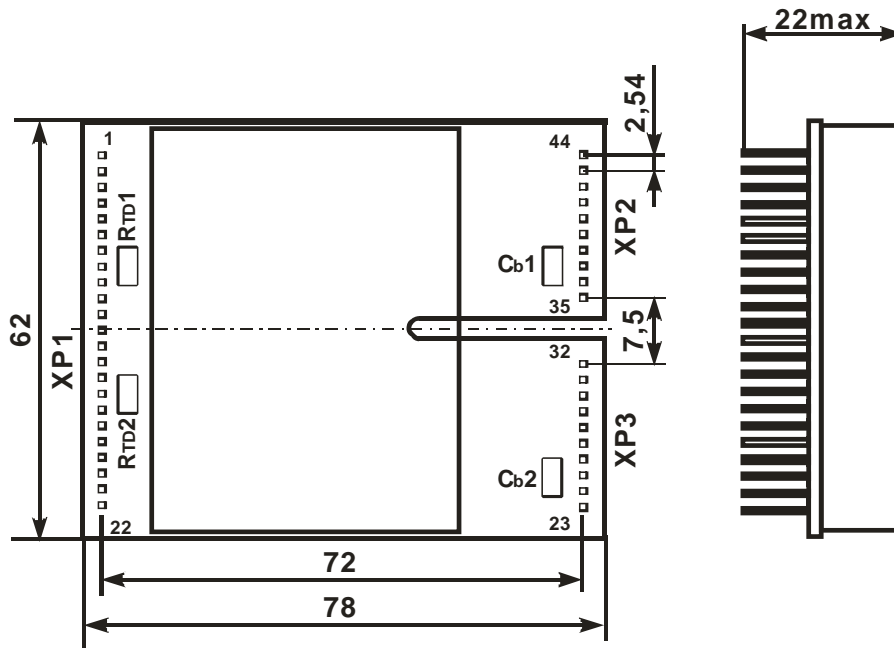
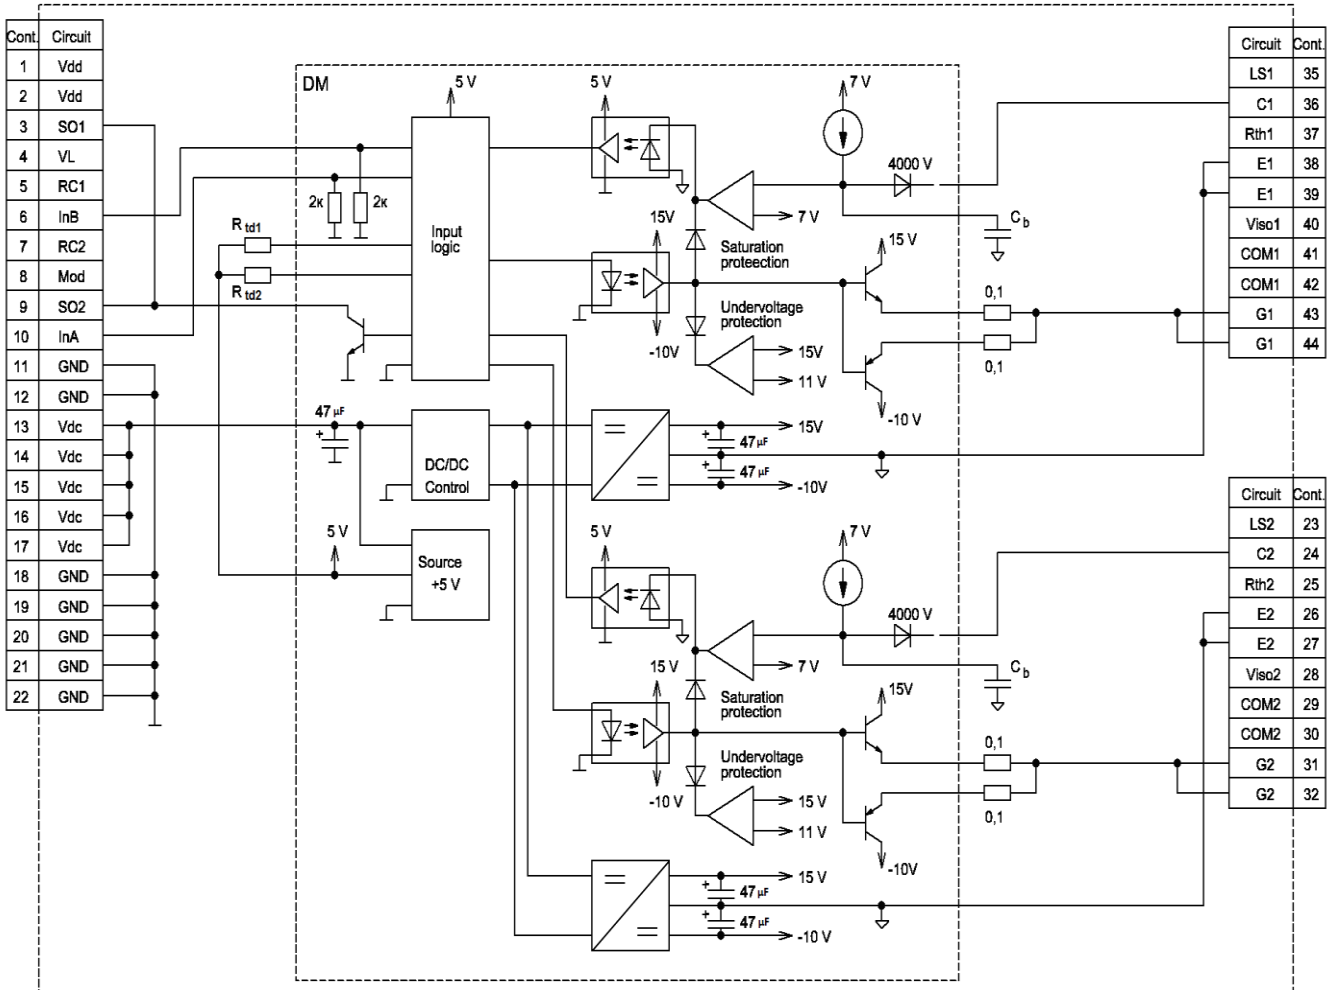

Figure 1 – Overall drawing
Figure 2– Functional driver circuit and turn-on circuit
3.2 Overall drawing is shown at Figure 1, functional driver scheme is represented at Figure 2